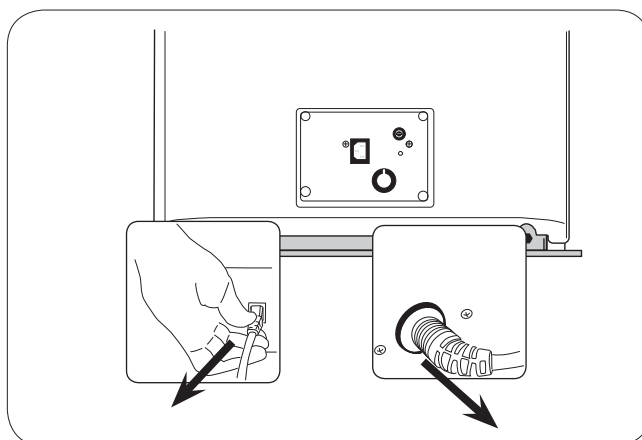

Figure 9. Unplug Foot Control and Power Cords
12. Unplug foot control and power cord and place into front storage drawer (Figure 9).